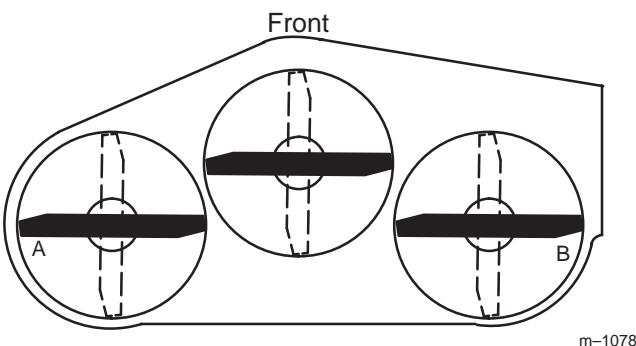

Figure 10
- Position the blades side-to-side (Fig. 10). Measure at **A** and **B** locations (Fig. 10) from a level surface to the cutting edge of blade tips (Fig. 11).